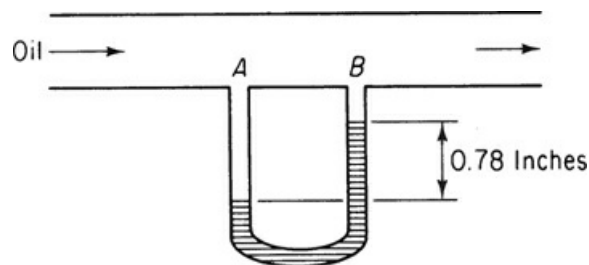

Figure P2.7.9
- **2.7.9** Examine Figure P2.7.9. Oil 1 (density = 0.91 g/cm^3) flows in a pipe, and the flow rate is measured via a mercury (density = 13.546 g/cm^3) manometer. If the difference in height of the two legs of the manometer is 0.78 in., what is the corresponding pressure difference between points A and B in mm Hg? At which point, A or B, is the pressure higher? The temperature is 60°F .